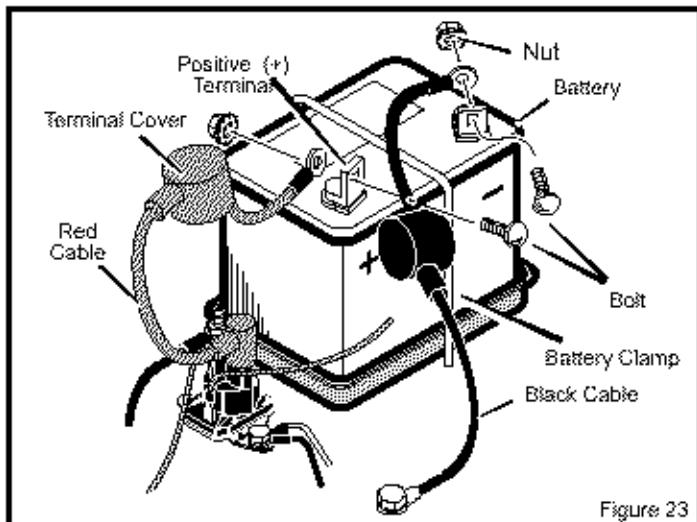

Figure 23
1. Remove the **black cable** from the negative (-) terminal (Figure 23).